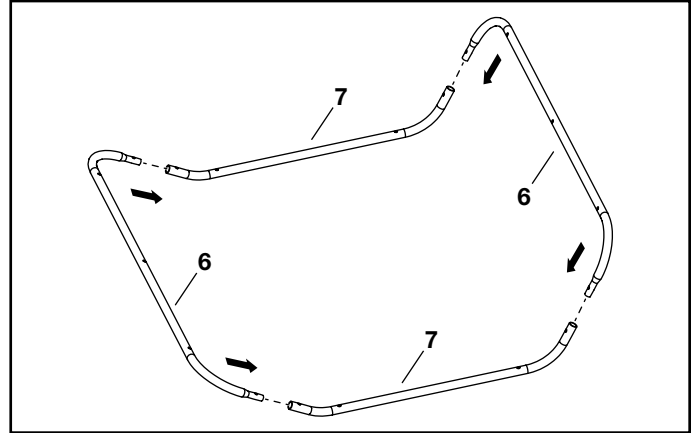

FIGURE 5
STEP 5: (SEE FIGURE 5)
- Assemble the pusher wall frame by inserting two vertical tubes (6) into two horizontal tubes (7), making sure the curvature of the horizontal tubes match.